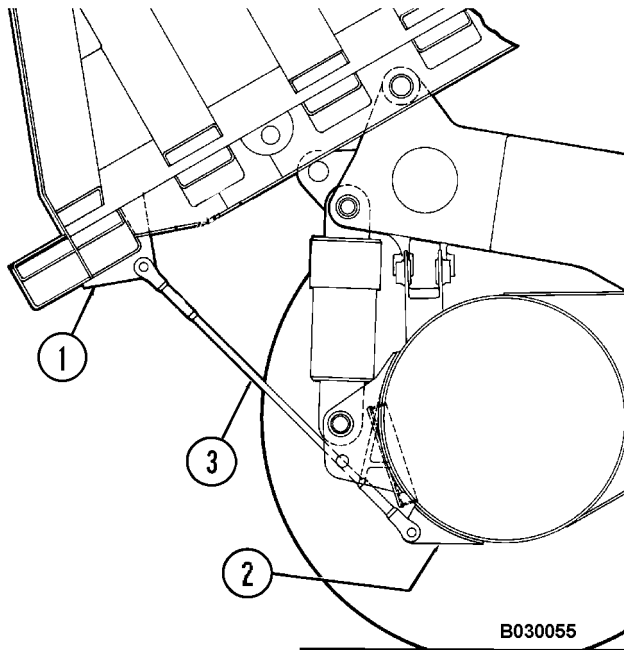

FIGURE 3-1. BODY-UP RETENTION CABLE INSTALLATION
2. Install body-up retention cable (3, Figure 3-1) between rear body ear (1) and axle housing ear (4).